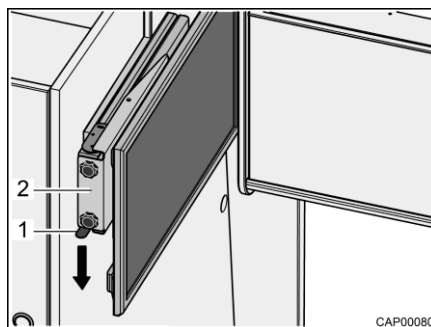

Fig. 30 Pull-out with flat screen
- Press catch spring (Fig. 30,1) downwards and pull pull-out (Fig. 30,2) with flat screen out horizontally towards the centre of the vehicle.
- Push the pull-out (Fig. 30,2) with flat screen horizontally as far as it will go. The catch spring (Fig. 30,1) engages audibly.